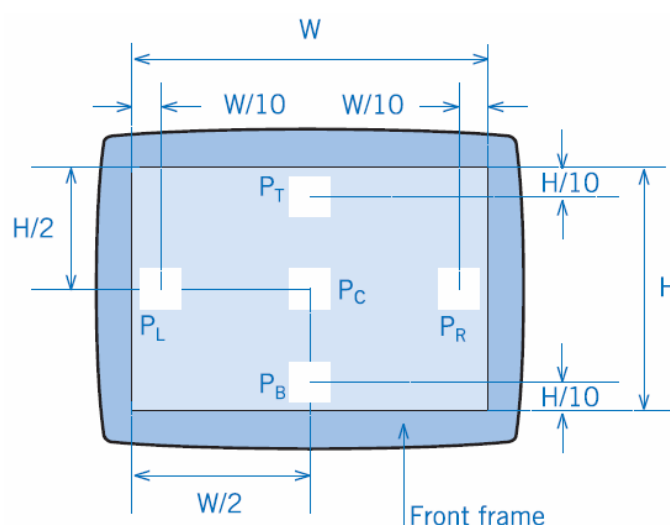

Figure1: Measurement positions for angular dependence luminance uniformity.
1. Refer to Fig.1&2, for FPDs in the horizontal direction, the mean value of the Lmax. to Lmin. ratios at ± 30 degrees shall be 1.7.
2. Refer to Fig.1&3, for FPDs in the vertical direction, the value of Lmax. to Lmin. ratio at $+15$ degree shall be 1.7 and the largest value of Lmax. to Lmin. ratio at ± 15 degree shall be
Refer to Fig.1&2, center point(P_c) Luminance of White(L_w) and Black(L_B) is measured at ± 30 degrees.